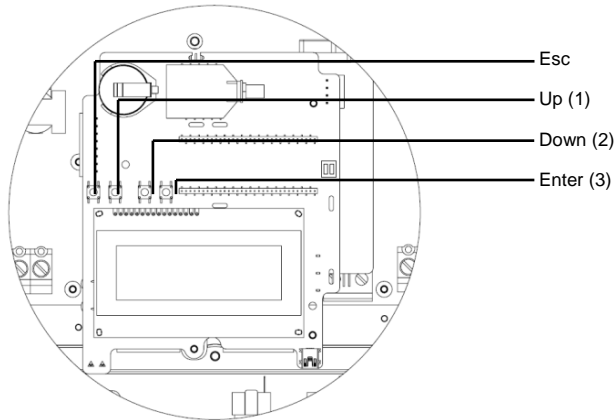

Figure 12: LCD Panel Menu Buttons
- 4 Remove the SolarEdge device cover to access the user buttons (see Figure 12).